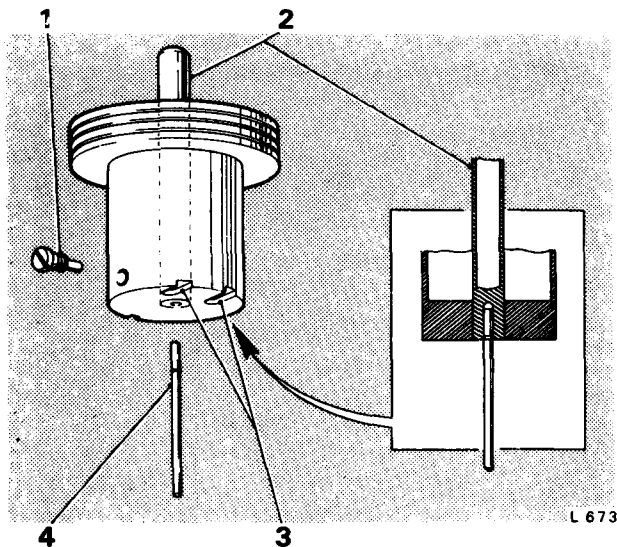

FIG.1 CORRECT POSITION OF THE FIXED NEEDLE
1. Fit the needle to the piston assembly. The shoulder or lower edge of the groove must be level with the lower face of the piston rod (see Fig. 1). Fit and tighten the locking screw.